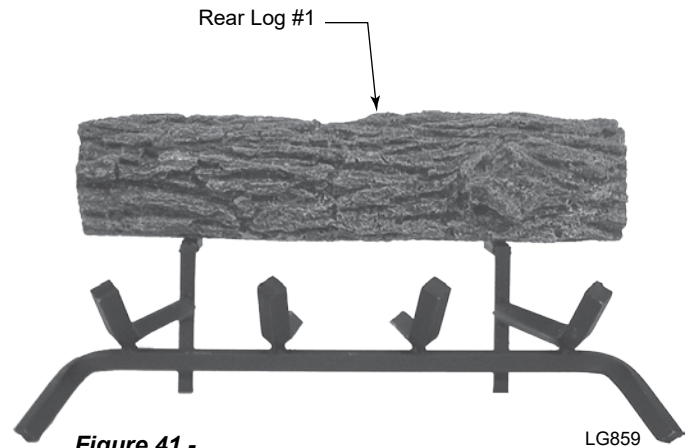

**Figure 42 -
2. Place Front Log #1 on front of grate. *Figure 42*